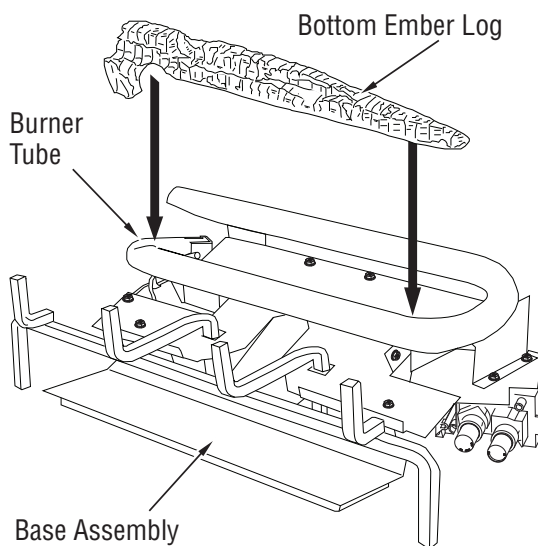

Figure 49 - Installing Bottom Ember Log
1. Place bottom ember log on base assembly as shown in **Figure 49**. The log should fit over the left side of the burner and rest in the middle of the U-burner.